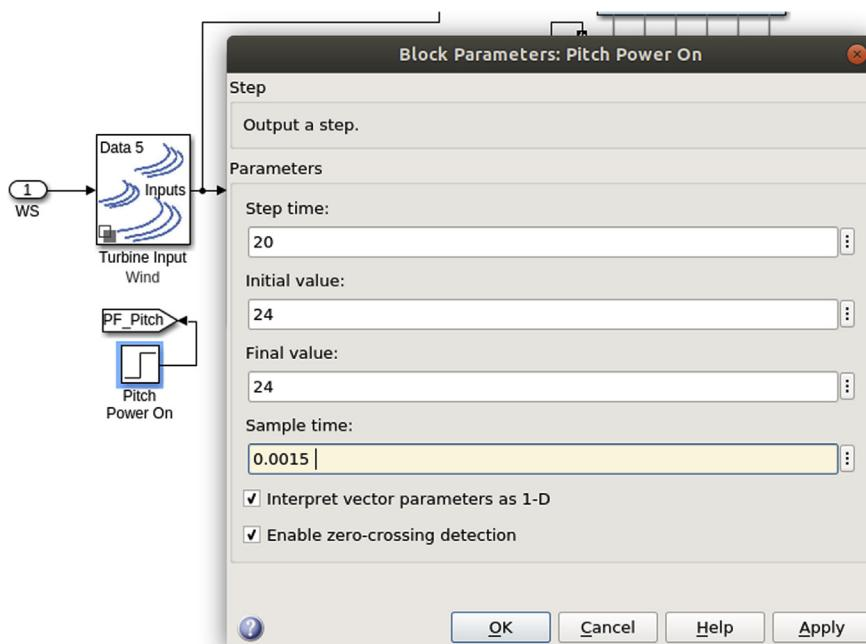

Figure 10.56 Pitch Power On settings.
7. In the top level of the model, in the bottom right corner, double click on the Pitch Power On block and set the sample time as 0.0015 s as shown in Fig. 10.56.